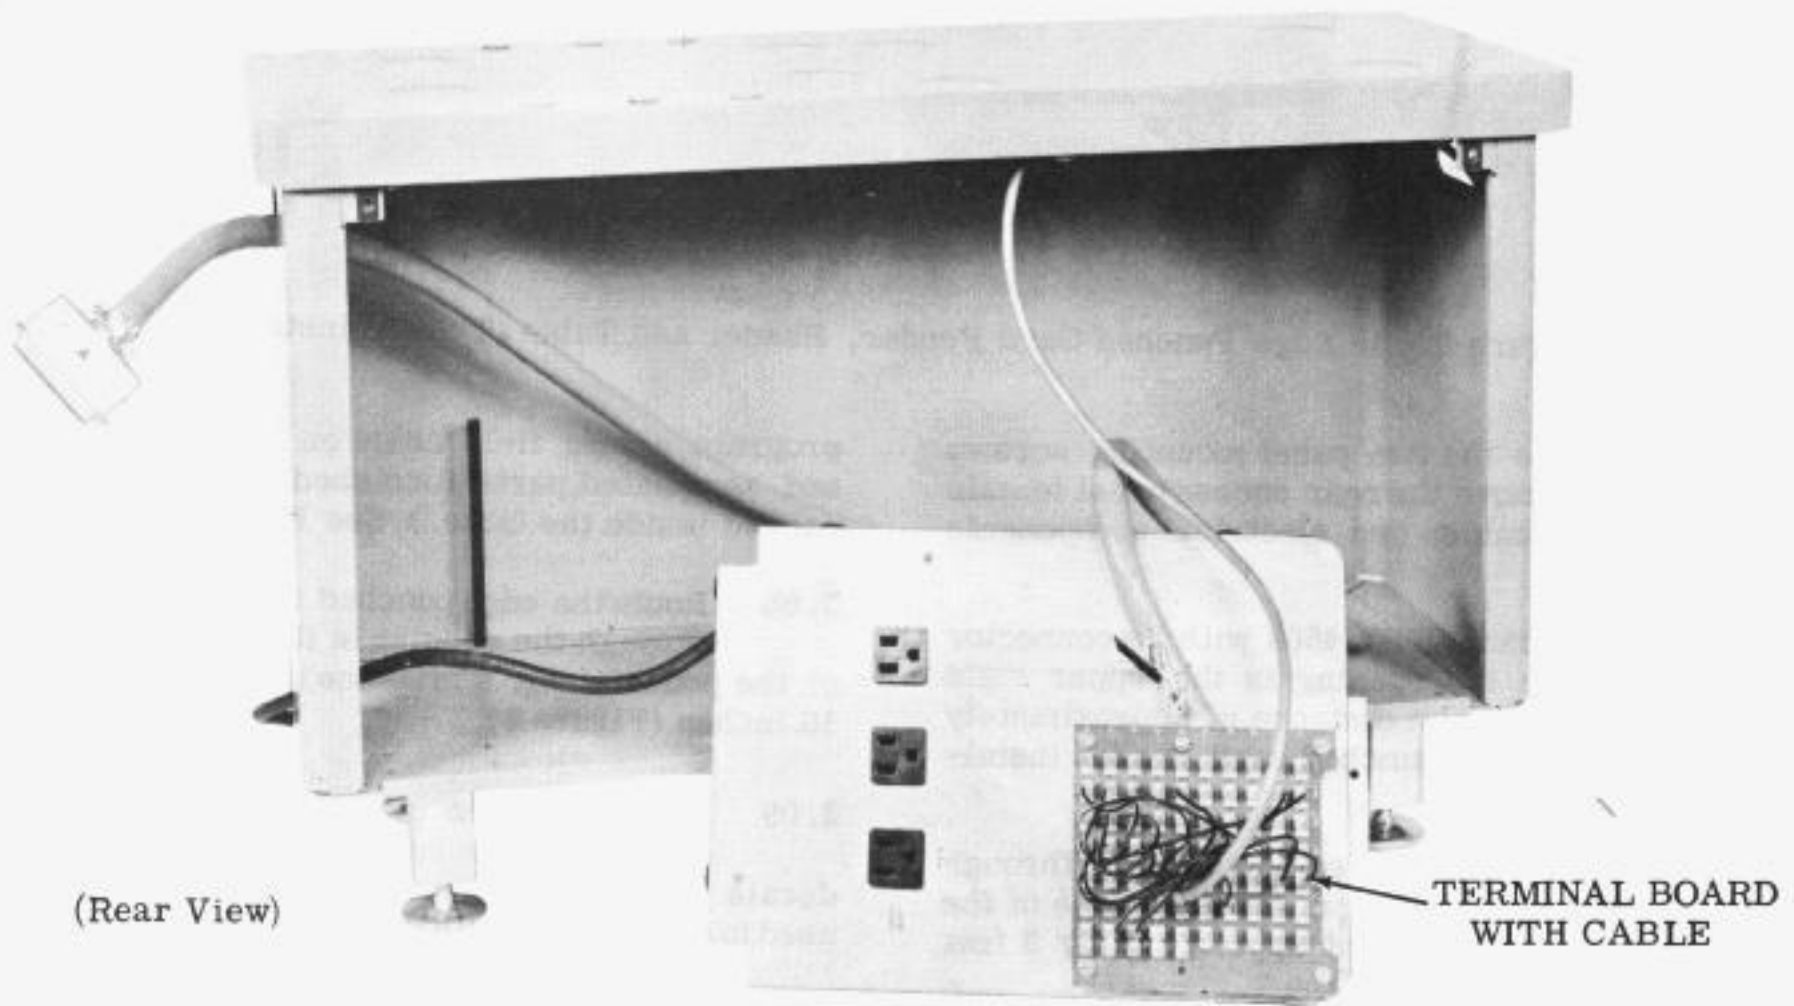

Figure 4 - 35 Edge Punched Card Feeder and Reader Table (Shelf Removed)
2.06 A removable mounting shelf, inside the pedestal, is provided for convenient servicing of the electrical components (Figure 4).
program wiring field chart on wiring diagram and associated parts furnished in the cloth bag packed inside the table.) See Figure 4.